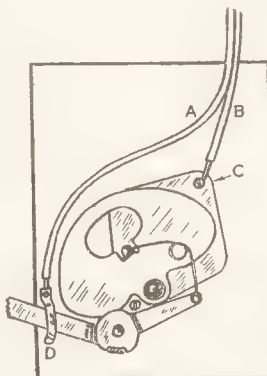
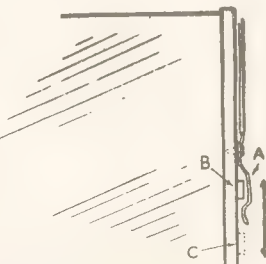

Fig. 1—The electrical circuit
Fig. 3—Side view of parts
To adapt the box camera for flash-gun operation is quite simple. A glance at Fig. 1 shows the arrangement to complete the electrical circuit. The two wires (A and B) are connected respectively to a non-movable part of the shutter (C) and to a simple brass contact (D). Fig. 3 A shows the shape and position of the contact. When the shutter trigger (Fig. 3 B) is depressed in taking the photograph, electrical contact is made, which ignites the flash-bulb in its holder. (Fig. 3 C) shows the trigger at rest at the limit of its travel.
The brass contact, Fig. 1 D is constructed from thin springy brass and is screwed into position with one or two small brass screws. The correct position is approximately midway between the extreme limits of travel of the trigger, but it is best to check for the correct position as follows.
connecting wires (A and B, Fig. 1) are attached to them. The camera front is then carefully refixed, observing that the connecting wires do not foul or obstruct the shutter mechanism in any way.